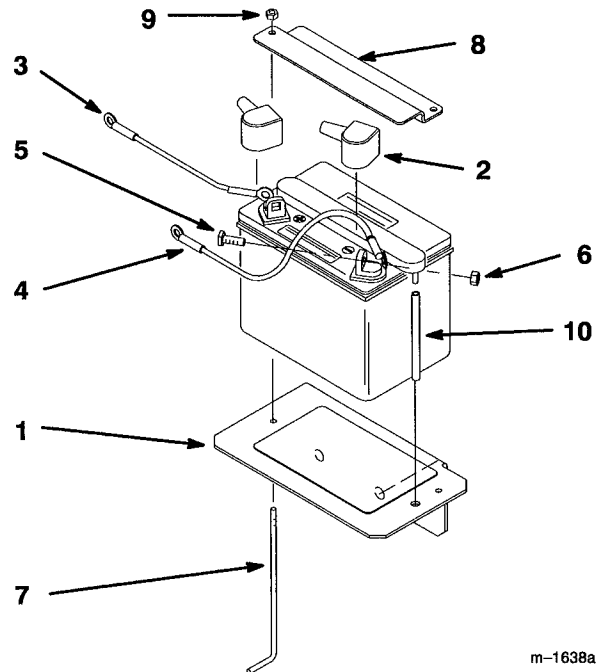

Figure 8
3. Position battery onto holder with terminal posts away from the engine (Fig. 8).
5. Install the positive (red) battery cable to positive (+) battery terminal and the negative battery cable to the negative (-) battery terminal. Secure cables with (2) 1/4 x 3/4" (19 mm) carriage bolts and 1/4" nuts.
6. Mount battery to holder with (2) support rods, a battery clamp and (2) 1/4" locknuts. Position support rods in mounting holes (Fig. 8). Tighten locknuts so battery is held securely in position and will not slide. **DO NOT OVERTIGHTEN.**